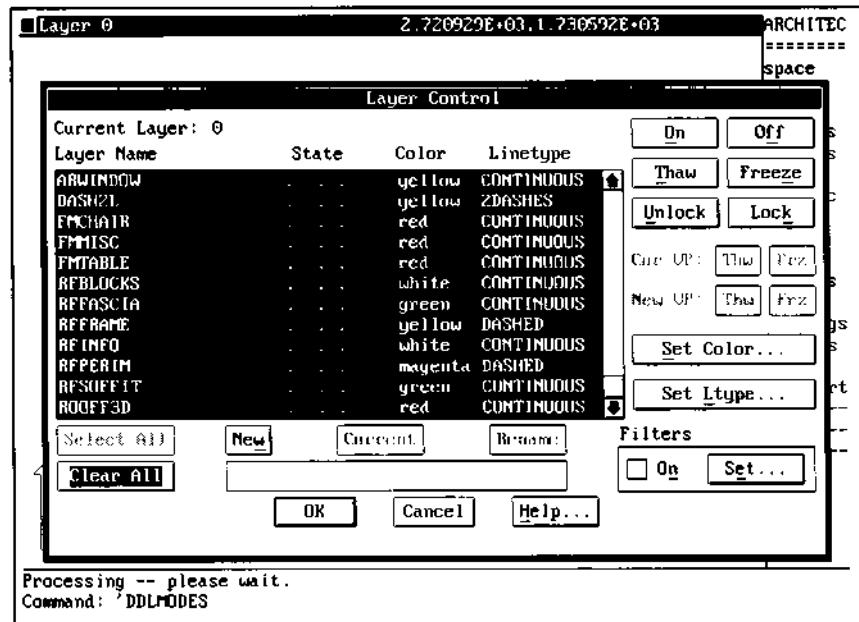

Figure 5.
3. With all layers off, clear the dialog box by selecting Clear All to unhighlight all the layers similar to Figure 5.